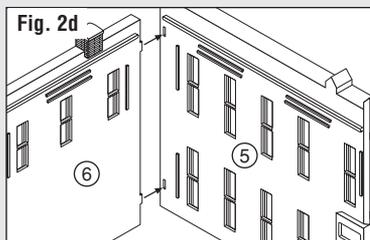

Fig. 2d
- Align tabs on Wall ⑥ with notches on Wall ⑤ (**Fig. 2d**). Keep Walls square and apply glue along backside seam.